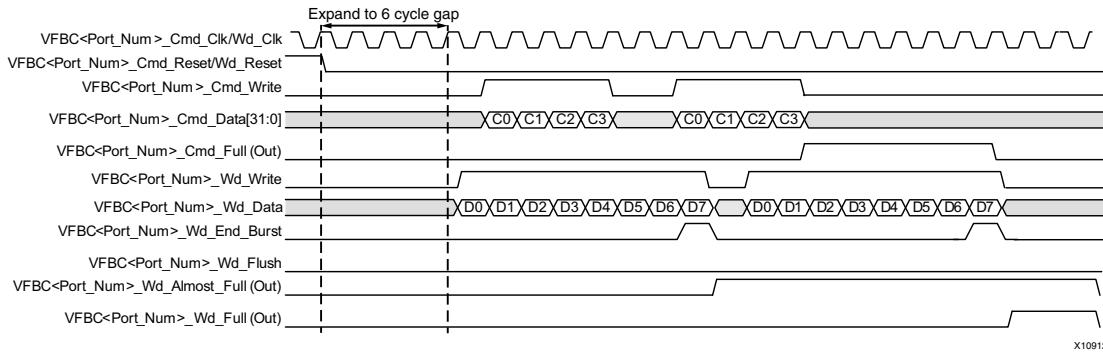

Figure 40: VFBC Write Timing
- The `VFBC<Port_Num>_Wd_End_Burst` signal is used only when the transfer is not a multiple of the burst size. If the transfer ends on a boundary that is not 32-word aligned, this signal must be asserted High during the last word transferred. Figure 40 shows a typical VFBC Write operation and provides an example of VFBC Write Timing. The actions of the Write data interface are enumerated after Figure 40.
- As shown in Figure 40, the command words C0, C1, C2, and C3 are being written during a data Write. The command words can be written before, during, or after the data is written.
- Figure 40 also shows one cycle between VFBC<Port_Num>_Wd_End_Burst and the next burst, although zero to any number of cycles can exist between burst end and the next burst. The number of cycles between bursts is controlled by the VFBC<Port_Num>_Wd_Write signal. This is the FIFO data push signal asserted by the VFBC client.